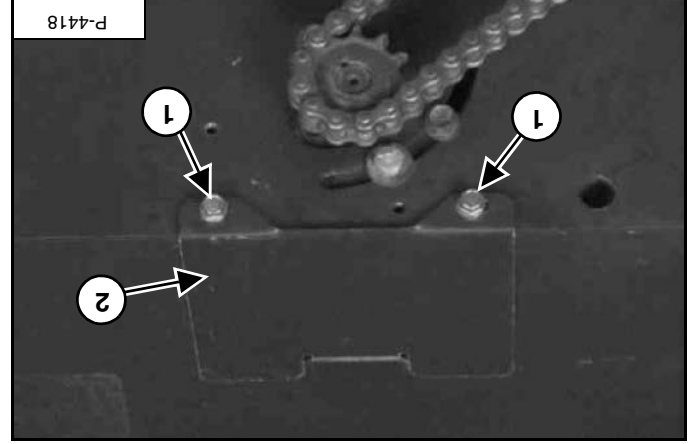

Figure 107
Remove the bolts (item 1) from the motor cover and remove the cover (item 2) [Figure 107].